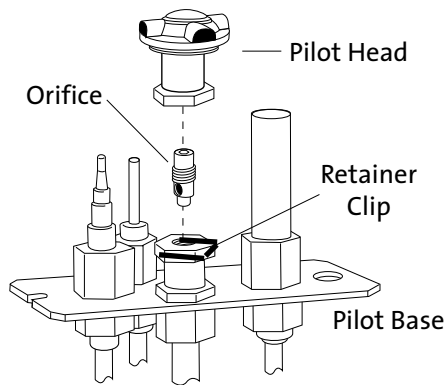

Figure 20.
9. Change the Pilot Orifice: From within the firebox, remove the Pilot Head by pulling it straight up from the pilot base. See fig. 20.
10. Tighten orifice into the base of the pilot assembly. To prevent bypass leaks, be sure the orifice is secured tightly and flush with the base. Replace pilot head by pushing it down onto the pilot base. See fig. 20.